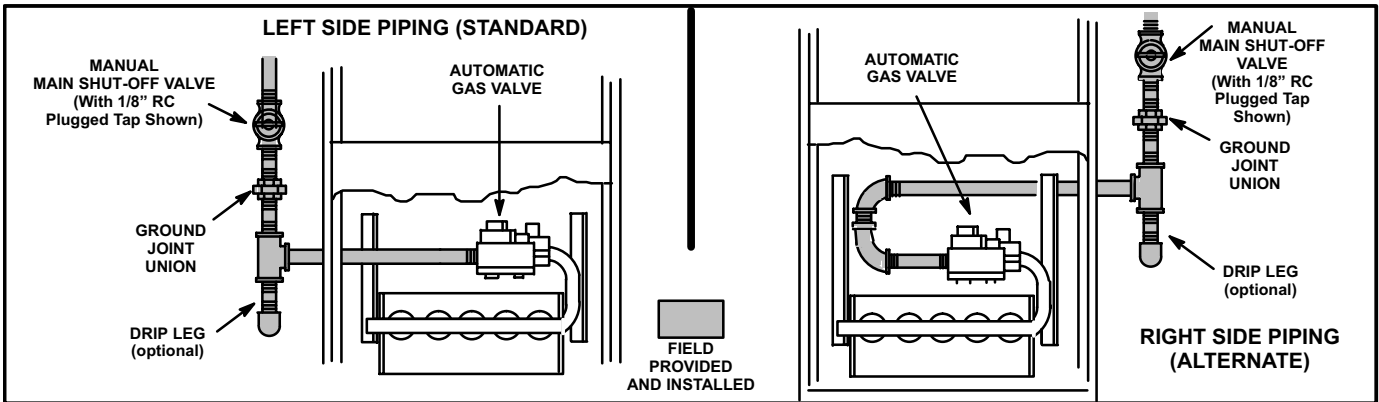

FIGURE 18
8 - A manual main shut-off valve and union (furnished by installer) should be installed external to the unit. Union must be of the ground joint type. See figure 18.
*NOTE - Install an 1/8" RC plugged tap in the field piping upstream of the gas supply connection to the unit. Tap must be accessible for test gauge connection. See figure 18.*